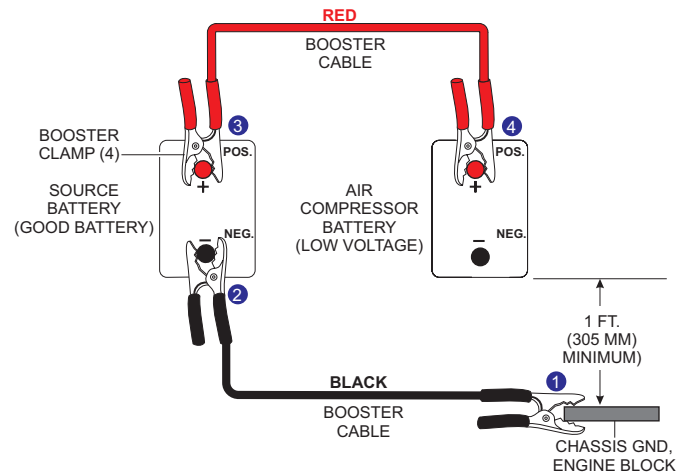

Figure 60. Removing Booster Cables
1. Remove the booster cable with the **BLACK** clamp (Figure 60) from the negative ground point (chassis ground/frame) on the air compressor.